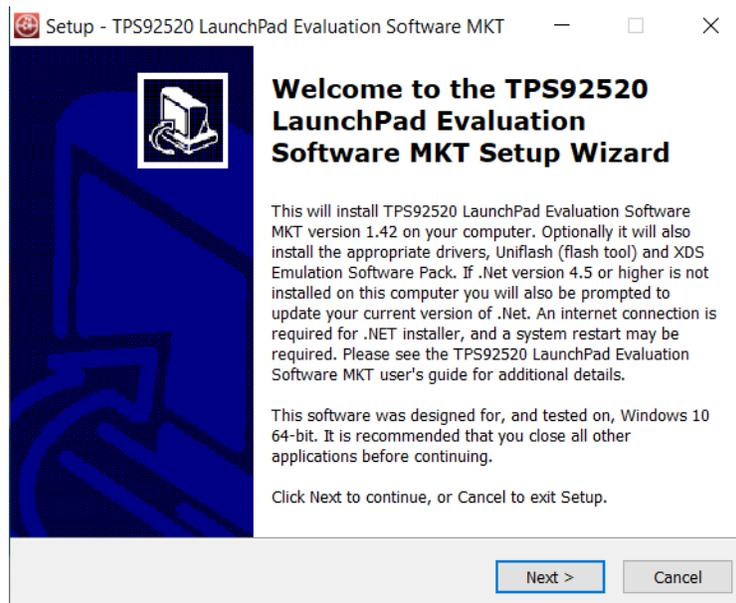

Figure 14. Setup Screen 1
6. After running the *TLED_Controller_GUI_Mkt.exe*, the evaluation software window appears as shown in Figure 14.